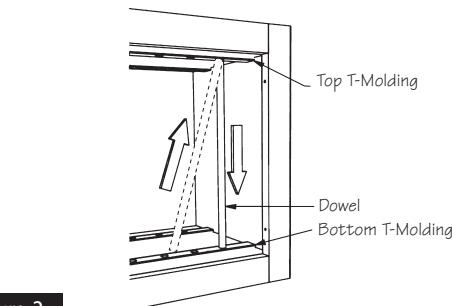

Figure 2
- 1 Remove the dowel from the cabinet by lifting the dowel up into the top T-Molding and removing the bottom of the dowel first. See Figure 2.
- 3 Insert one end of the dowel completely into the top T-Molding and then insert the other end into the bottom T-Molding. The dowel should slide down into the bottom T-Molding without coming out of the top T-Molding. See Figure 2.